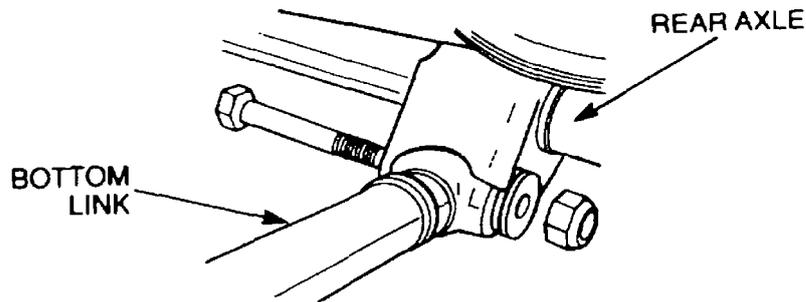

Figure 67 Bottom Link to Axle Bracket
- j. Remove the locknuts and bolts securing each bottom link to the axle brackets (Figure 67). Discard the locknuts.